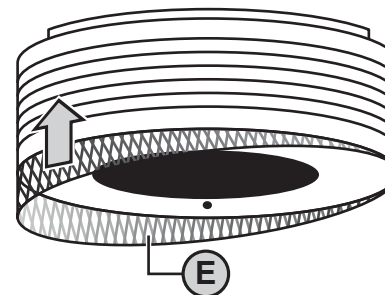

Figure 5
- Insert new insect screen (E) flush with the edge of the housing into the device (fig. 5).